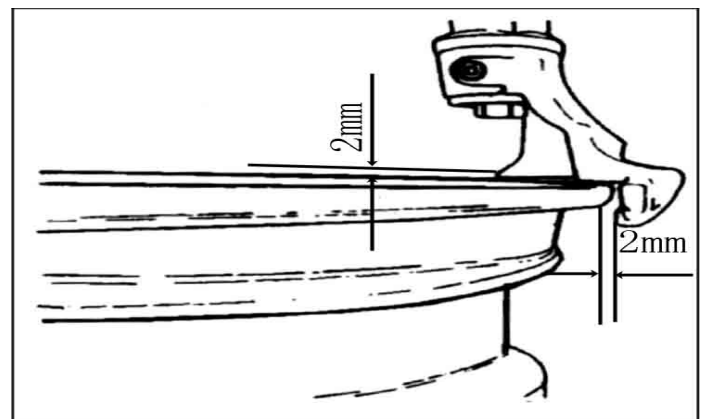
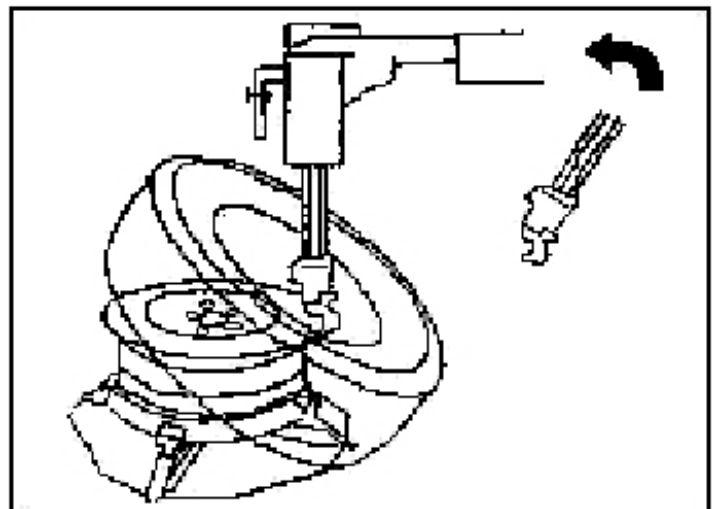

FIG22
FIG26
4.1.3 Move the hexagonal shaft to the working position to make the demount tool close to the rim of the wheel. The cylindrical roller in the demount tool will contact with the external rim of the rim and the bottom of the demount tool will contact with the surface of the rim. Press the lock handle press button (fig2-2) to lock horizontal arm and hexagonal shaft and the hexagonal shaft will automatically move upwards. The quadric shaft will automatically backward a little to make the demount tool detached from the rim of the rim to avoid the damage on the rim. (fig22) .
4.2.2 Spread the lubrication liquid or soap liquid around the lip. Tilt the tire against the rim and keep the front end upwards. Press down the column tilt pedal (fig2-11) to make the column return to the original position. Move the demount head to firmly contacted rim(fig22). Position the left of the lip above the tail of the demount tool and the right under the hump of the demount tool. See FIG 26.